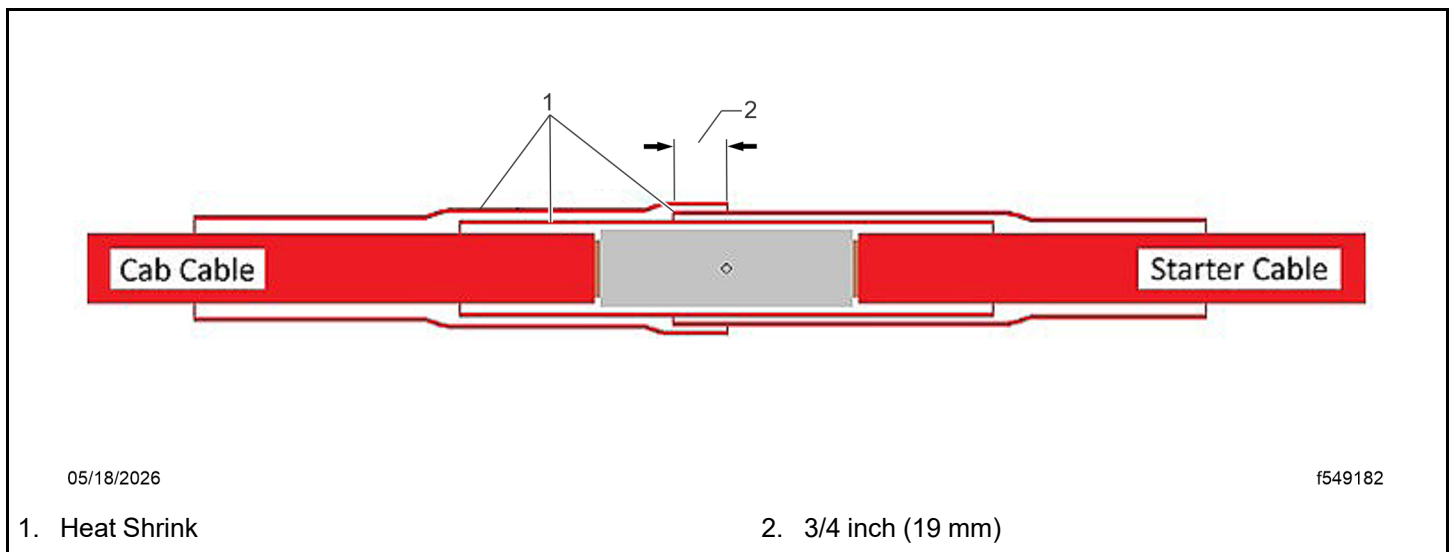

Fig 127, Heat Shrink Insulation
39. Insulate the butt connection with heat shrink sleeves. See Fig. Fig. 127.